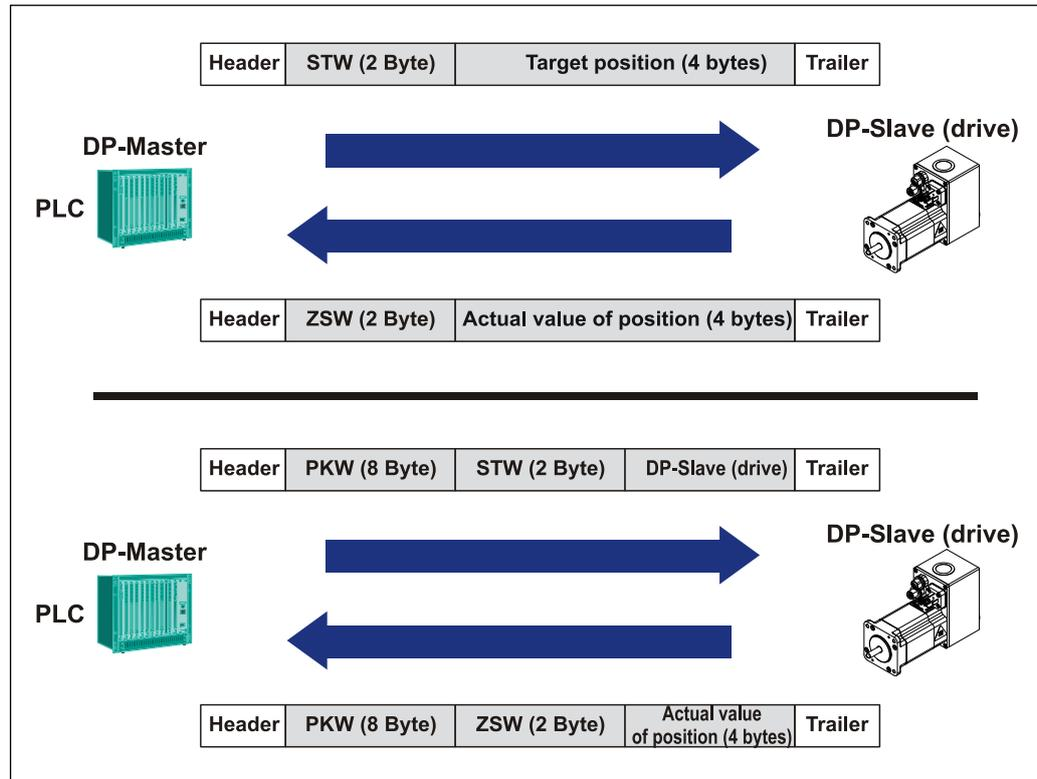

Figure 2: Cyclic communication with PKW channel (bottom) and without (top)
Figure 2 shows the telegrams, which are exchanged between DPM1 and slave as part of the cyclic data traffic. At the same time, the control word and target position are transmitted from the DPM1 to the slave as process data, and, in the opposite direction, the status word and the position value.
(cf. Figure 2, Page 83)
2. **PKW channel, PZD: as in 1.** (cf. Figure 2, Page 83)